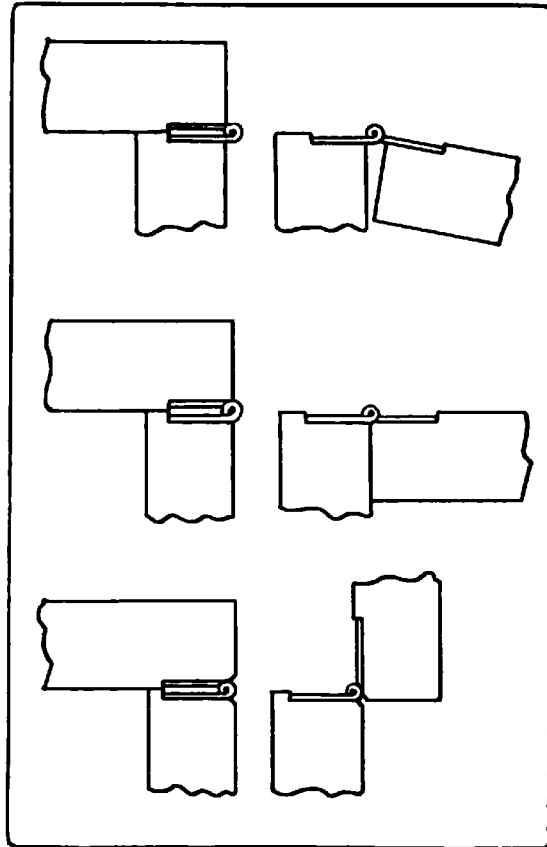

Fig. 235. Three Positions of Hinges.
A butt-hinge may be set in one of three positions, Fig. 235: (1) Where it is desired to have the hinge open as wide as possible, as in a door. Here the knuckle is set well out from the wood.